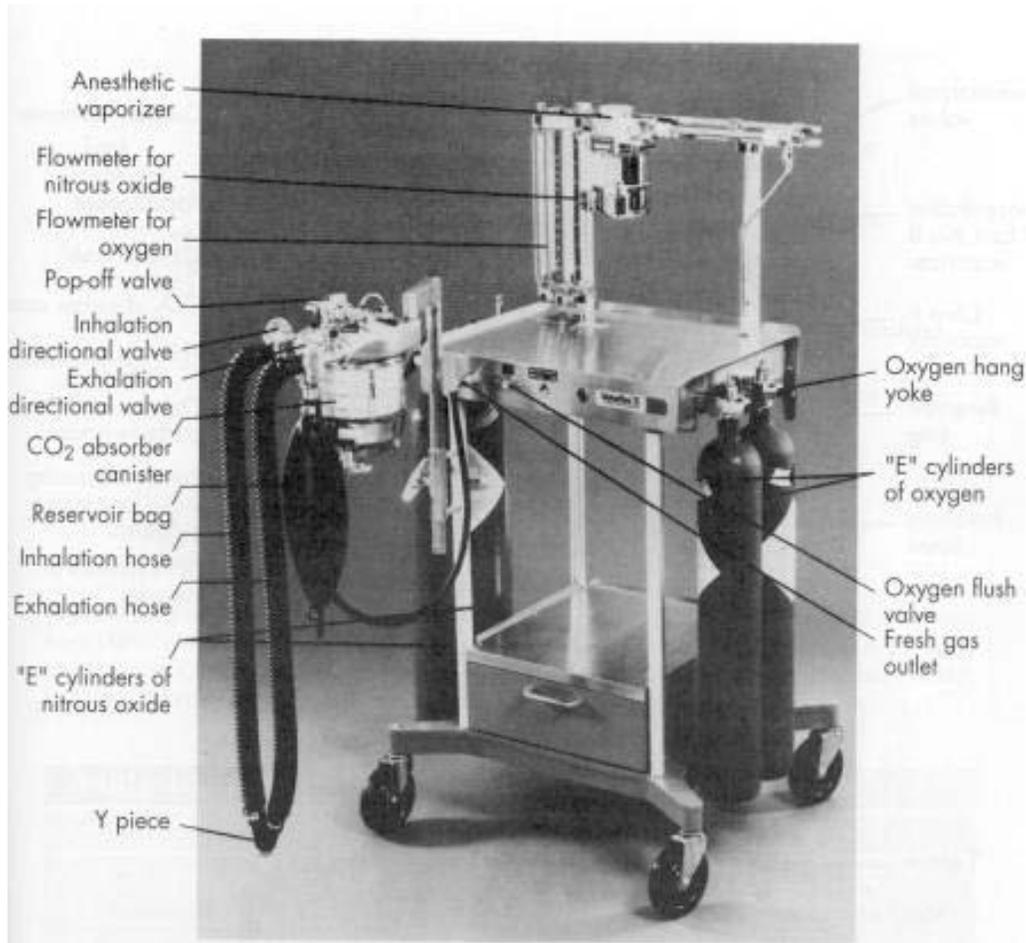

Figure 1. Anesthetic machine and its parts
- Figure 1 depicts an anesthetic machine and its parts.